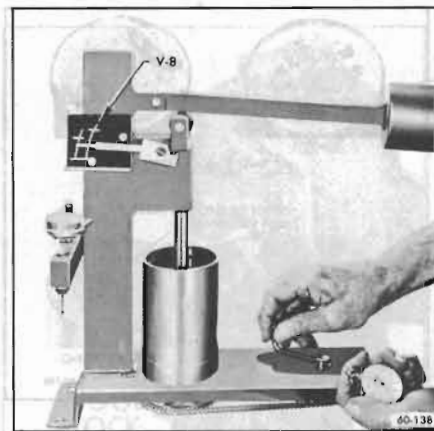

Figure 60-323—Checking Leakdown Rate
4. Lower the ram to rest in the lifter push rod seat, then lower the weight arm to rest on the roller or ram as shown in Figure 60-323.